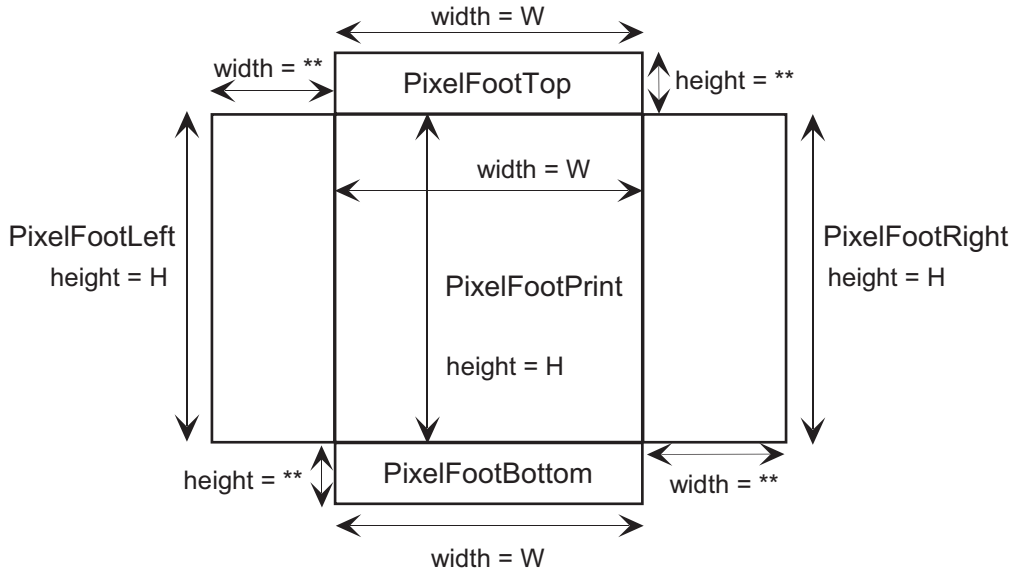

Figure 1.10: `PixelFootAll`
1. `PixelFootAll`—This cell is not necessary for layout compilation, however it is useful for checking the correctness of the layout. It is constructed by placing the edge cells (`PixelFootLeft`, `-Right`, `-Top`, and `-Bottom`) around `PixelFootPrint`. The inner edge of the abutment boxes for all the edge cells should be lined up with the abutment box of `PixelFootPrint` (Figure 1.10). This is also a good way to check the size restrictions in the edge cells (see Section 1.2.3). The `PixelFootPrint` should not cause any DRC errors with the edge cells; DRC on `PixelFootAll` will check this.